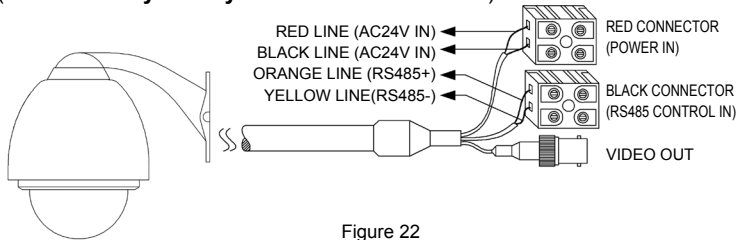

Figure 22
- 1 **The synthetical wires as follows** (Figure22) , Orange isRS485+, Yellow is RS485-, While you are using AC24V power line , the red and black is the input side of the power ; BNC connector is the video-out side **(Take carefully while you connect these wires)**.